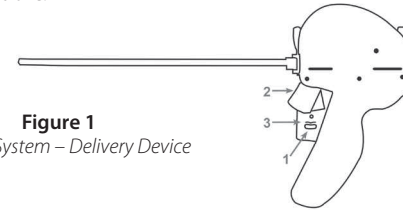

Figure 1
- 3.1. Unlock the Needle Safety Lock. (**Step 1, Figure 1**).
- 3.2. Lightly depress the Trigger to deploy the needle (**Step 2, Figure 1**), then release Trigger.
- 3.3. After a brief pause, depress the Retraction Lever (**Step 3, Figure 1**) fully to retract needle and deploy Capsular Tab. Squeeze the Retraction Lever again to ensure completion of retract stroke.
- 3.6. Press the Urethral Release button toward the telescope (**Step 4, Figure 1**) to deploy Urethral End-Piece and cut the excess suture.